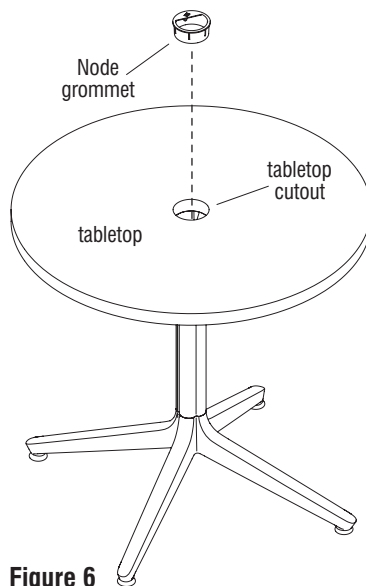

Figure 6
14. Position the Node grommet above the tabletop cutout as illustrated, and oriented appropriate to grain direction, or base orientation to be consistent with other tables being assembled (Figure 6 & Detail E).
15. Push the grommet into the cutout, tapping lightly with a rubber mallet if required. Use caution to avoid scratching the grommet (Figure 6 & Detail E).